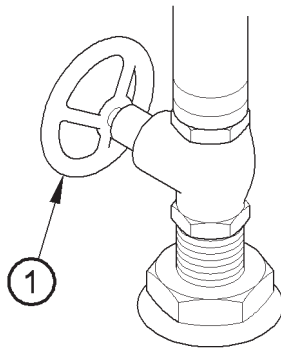

Figure 8
1. Ensure that the seacock is closed (figure 8 item 1 shows a typical example).